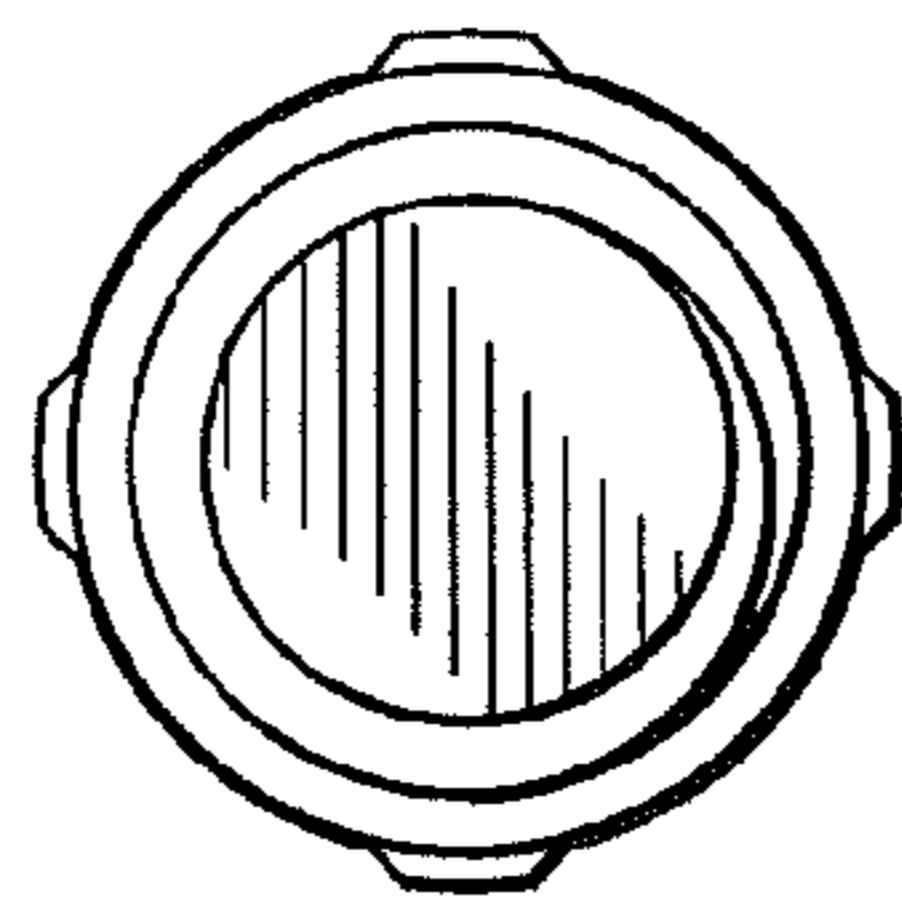

Fig. 5
- FIG. 5 is a top plan view of the stud having a diamond-knurled wedge;